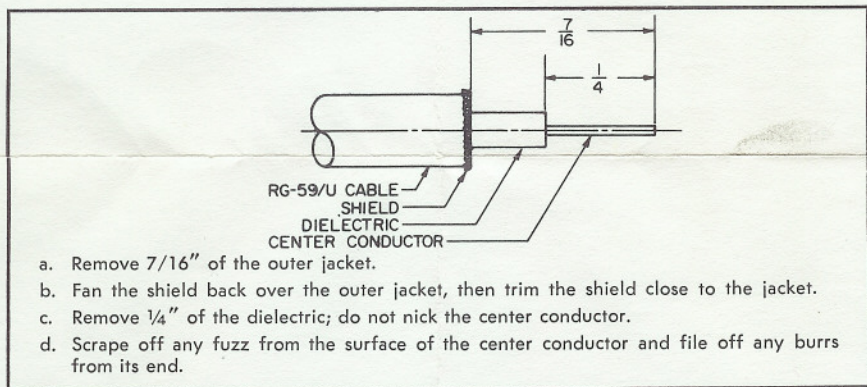

Figure 1. Preparation of Cable
1. Prepare the cable as shown in Figure 1.